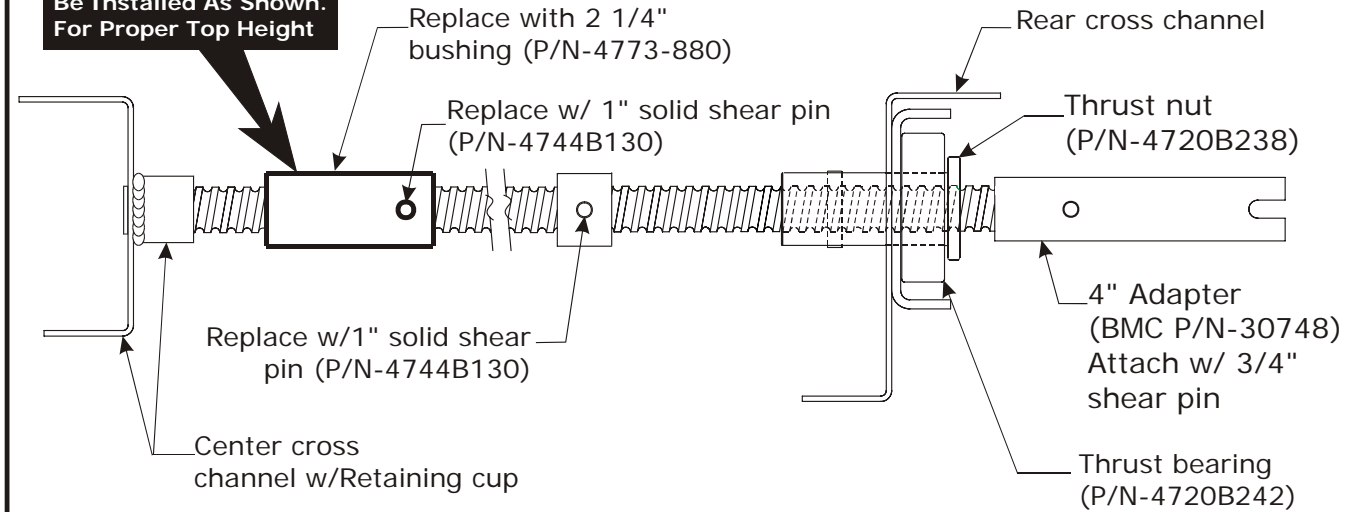

FIGURE 3
8. Remove the motor power head (BMC P/N 19697) from the mounting assembly (BMC P/N 30747) by loosening the three (3) hex set screws using a 5/32" Allen wrench as shown in Figure 3.
9. Remove the wires coming from the motor power head to the current limiter by unplugging the quick disconnect. The motor wires are **black** and **red** and will have either a **white** or **black** plastic quick disconnect plug on the end as shown in Figure 3.
10. Next, detach the mounting assembly by loosening and remove the four (4) nuts and bolts that attach it to the rear cross channel and save the nuts and bolts. Slide the mounting assembly off the 4" Adapter (BMC P/N 30748). The 4" adaptor (BMC P/N 30748) is what connects the end of the whiffletree screw to the motor power head.
NOTE: Make sure the motor power head is positioned as shown in Figure 3.